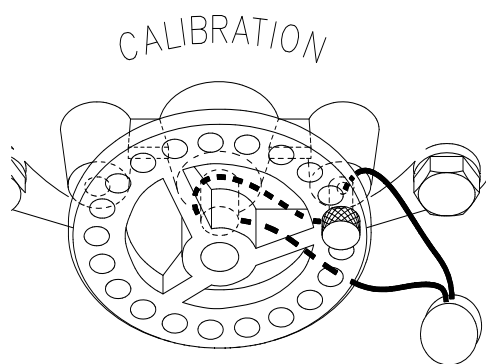

Figure 4
2. Cut and remove the existing seal wire and remove the seal pin. See Figure 4.
7. Reseal the meter adjustment. See Figure 4.